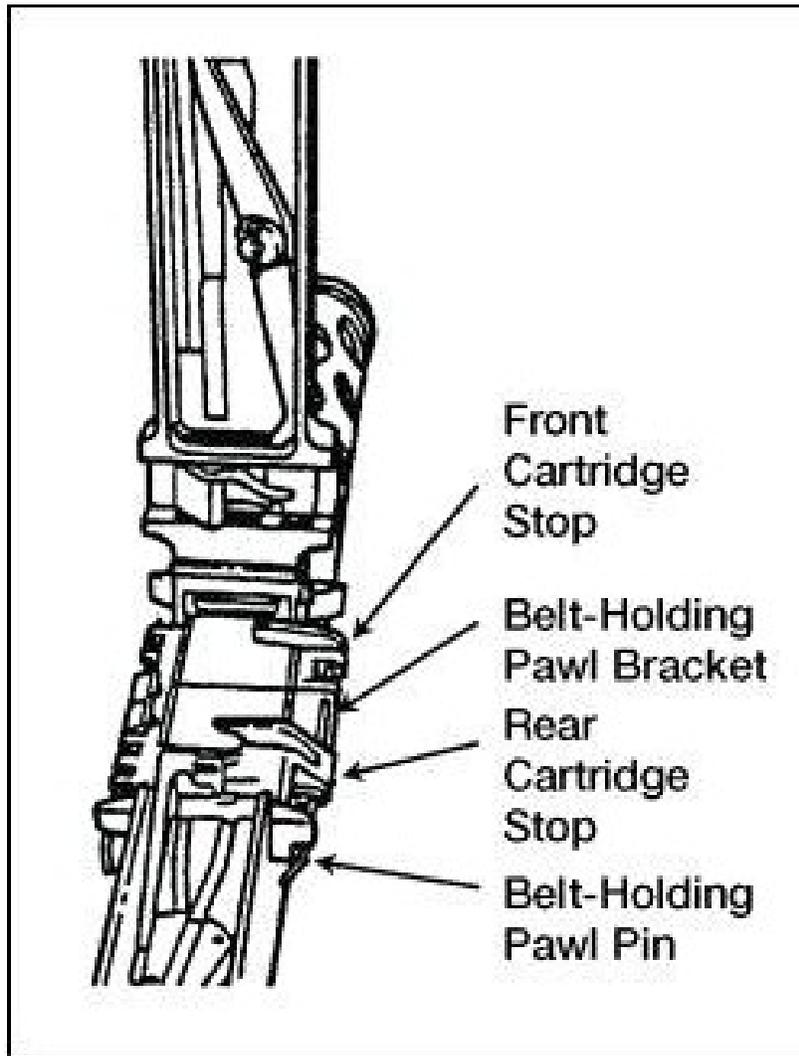

Figure 551-8ST-1025_24 (Installation of the rear cartridge stop assembly and front cartridge stop)
(1) Determine the direction of feed. (Figure 551-8ST-1025_24 shows left-hand feed.)